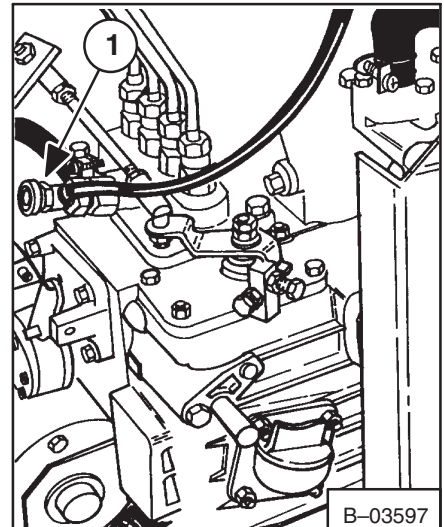

Fig. 1-24 Removing Air From Fuel System (643)
- Put the throttle at minimum RPM. Loosen the valve (Fig. 1-24, Item 1) on the top of the injector pump and squeeze the bulb several times (Fig. 1-21, Item 3). Turn the engine over with the starter. When the engine starts and runs smoothly, close the valve.